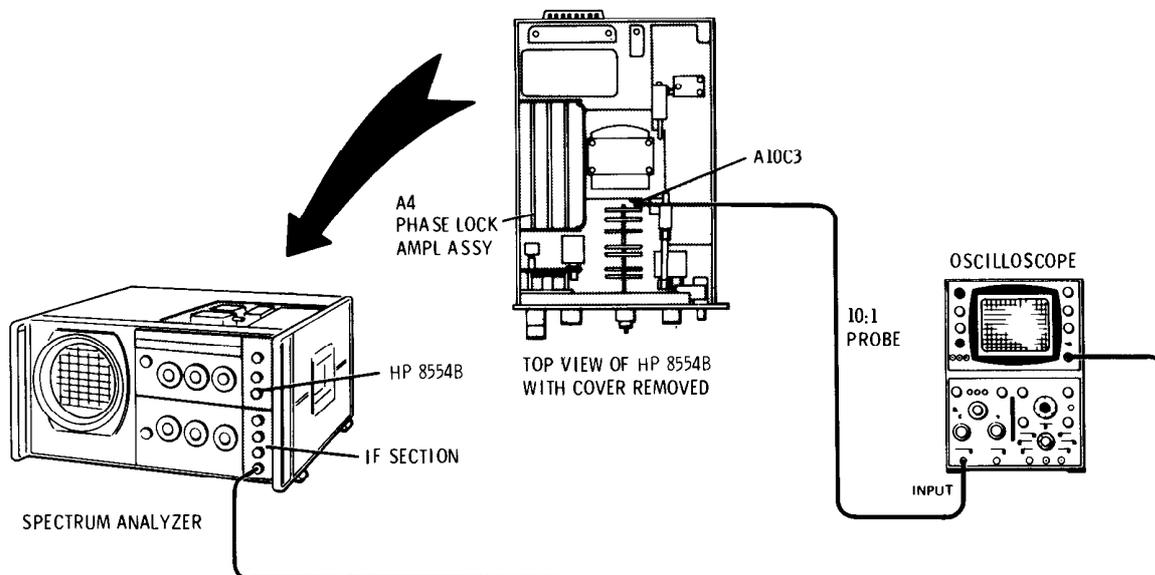

Figure 5-13. Full Scan Sampler Output Check and Adjustment
3. Connect test setup shown in Figure 5-13 and make the following control settings: